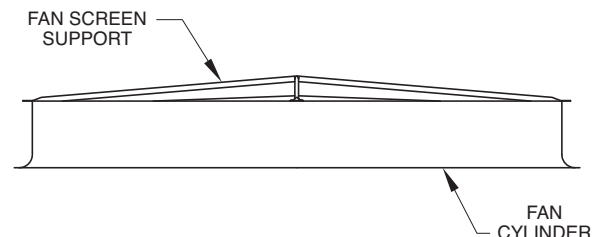

Figure 24 - Support Frame Installation
1. Set the support frame across the top of the discharge cylinder (See Figure 24).